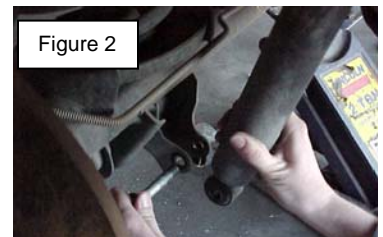

Figure 2
3. Disconnect the lower shock mounts. See figure 2.
4. Disconnect the lower shock mounts and disconnect the rear track arm at the axle. See figure 2.